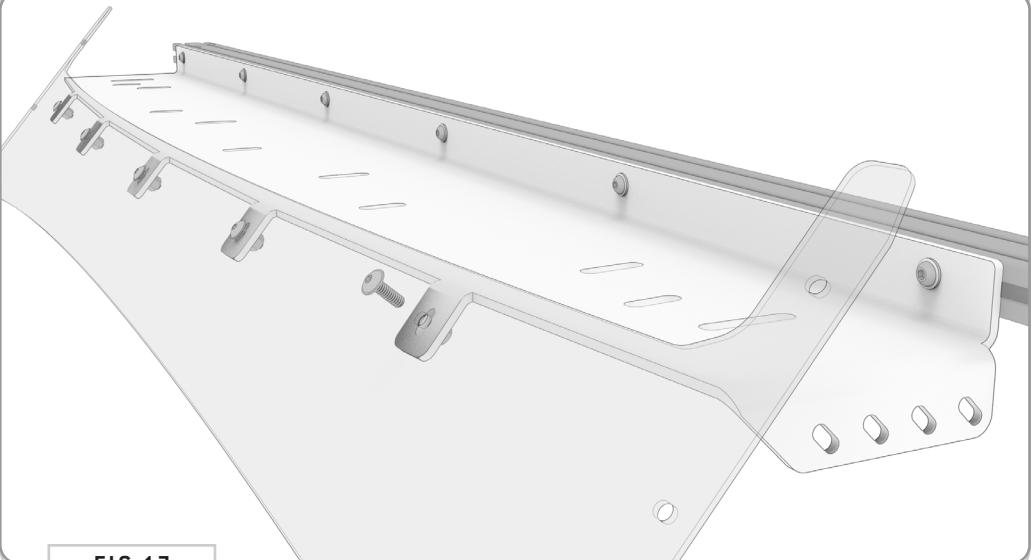

FIG 17
5.3 Attach Front Fairing: Attach the Front Fairing to the Assembly using **1/4-20 x 0.75 Flanged Button Head Screws, Flat Washers and Nylon Locknuts** (FIG 17+18).